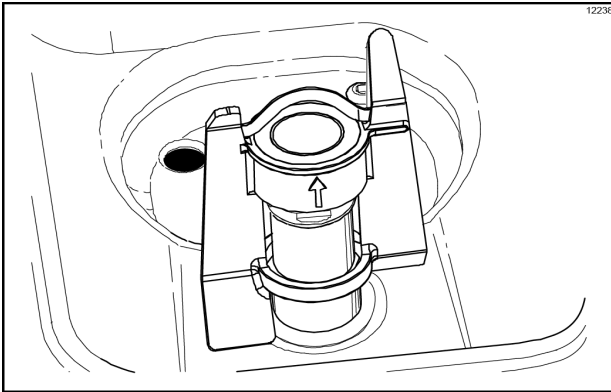

Figure-52
**Important:** Fill the mix hopper with mix up to the fill level indicator on the agitator paddle. (See Figure-52.)